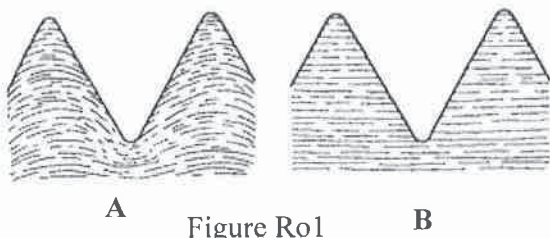

Figure Ro1
a) In figure Ro1, which thread is made by rolling? Justify your answer.